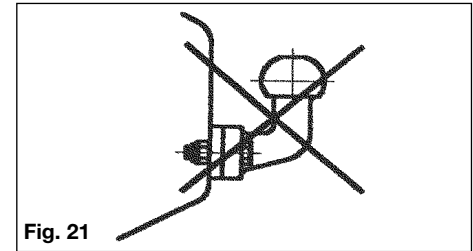

Fig. 21
1. In accordance with EC Directive 94/20, couplings of type A 50-1 cannot be used (see Fig. 21), your warranty will be invalid if this type of towball is used.